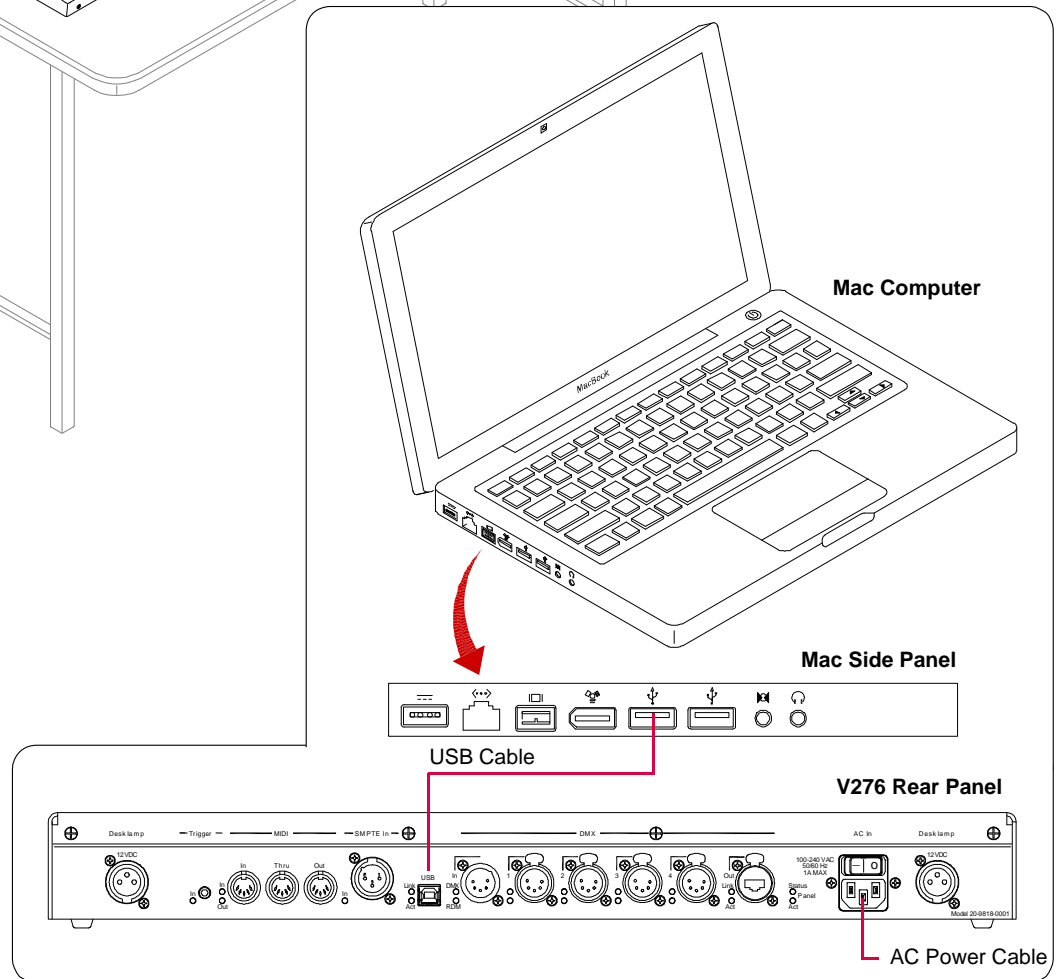

Figure 6: Connecting Components to V276 Console
Step 3. Place console on a sturdy table or other flat surface (Figure 6).